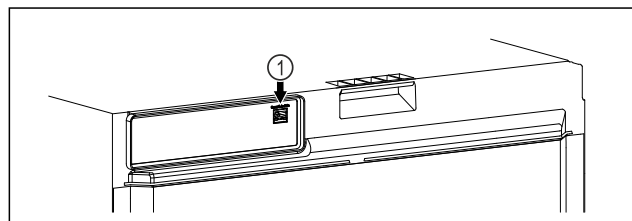

Fig. 100
- ☐ SmartModule Fig. 100 (1) has been inserted.